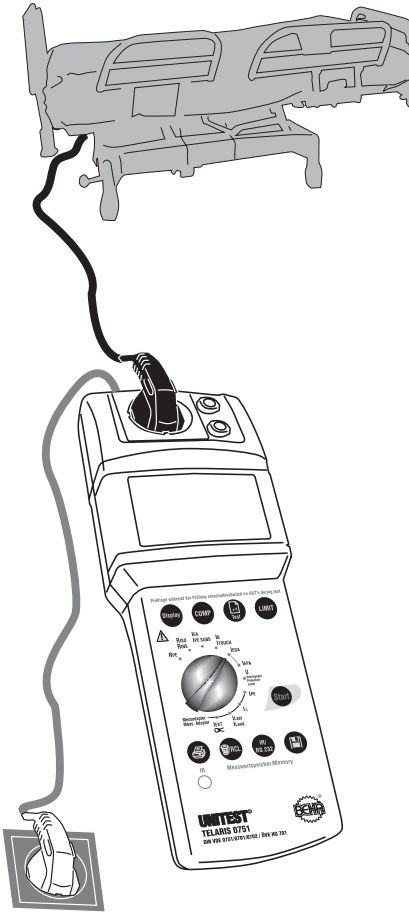
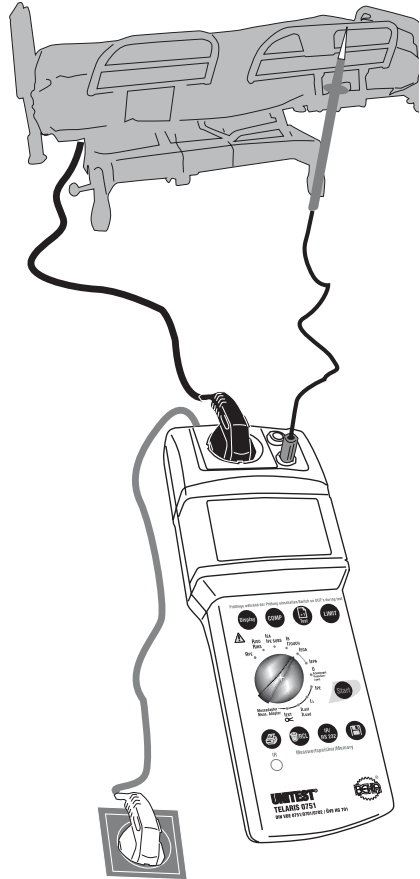

Figure 6.23: Measurement of the auxiliary instrument leakage current for instruments pertaining to protection class I
Figure 6.24: Measurement of the auxiliary instrument leakage current for instruments pertaining to protection class II *
- ▶ Connect the UNITEST TELARIS 0751 via the mains plug (1) to a functional and correct wired and grounded mains socket.
- ▶ Turn the 'Measurement function' selection switch (15) to position 'IEGA'.
- ▶ Plug the UUT mains plug into the test socket (3), please refer to Figure 6.23.
- ▶ Press the key "Start" (9). The unit symbol which is blinking on the display is an indication for the active measurement procedure.
- ▶ Read the measurement value from the LC display (6). The symbol 'LIMIT' (21) indicates an exceeding of the limit values, if the limit value display is switched on.
- ▶ When performing measurements on instruments pertaining to protection class II or III and for touchable, conductive parts of instruments pertaining to protection class I not being connected with the PE conductor, please additionally connect the "PE" socket (5) to all touchable, conductive casing parts of the UUT, please refer to Figure 6.24.
- 📄 The measurement results can be saved by pressing the key "Store" (10). For references regarding the saving of measurement values, please refer to section 7.1 and 7.2.
- ▶ Turn the 'Measurement function' selection switch (15) to position 'IEPA'.